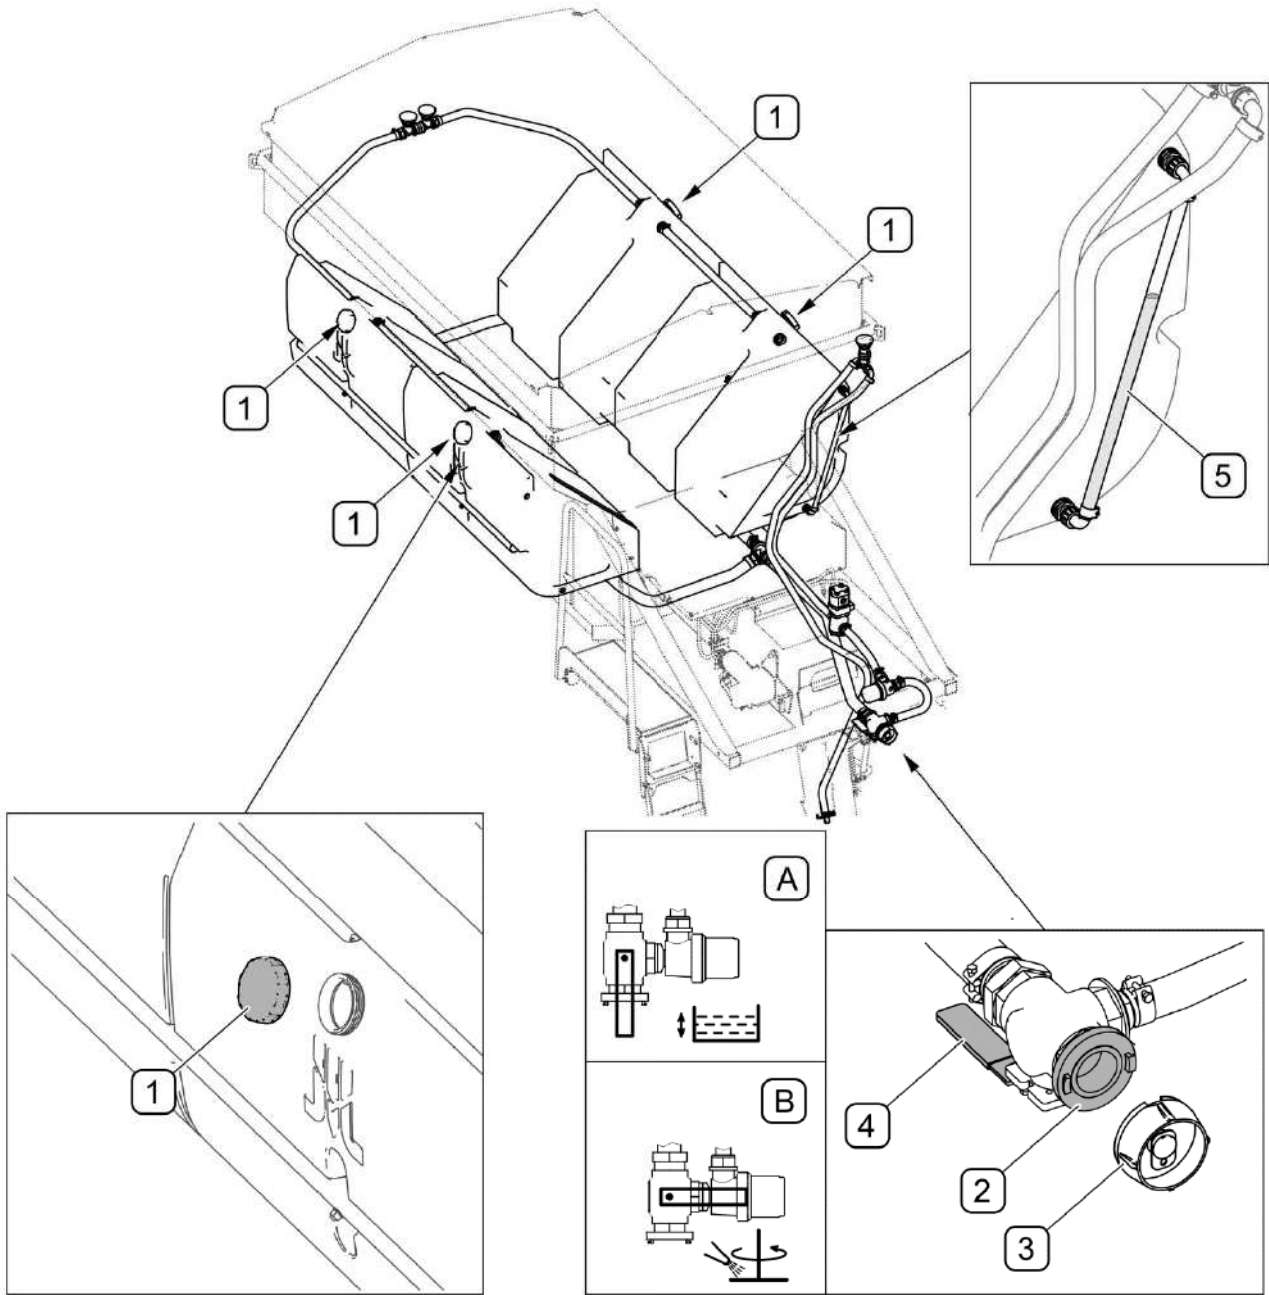

FIG. 4.16 Filling the tank with brine
The tanks can be filled with brine (FIG. 4.16) through tank openings secured with plugs (1) or through STORZ 52C connection (2) secured with a plug (3).
In order to fill the tanks with brine (FIG. 4.16) through connection (2):
- set valve lever (4) in position (B),
- unscrew plug (3) and connect filling hose to connection (2),
- set valve lever (4) in position (A) and start filling,
- brine level is checked on brine level indicator (5) located on the tank,
- when filling is completed, set lever (4) to position (B),
- disconnect filling hose and tighten plug (3).